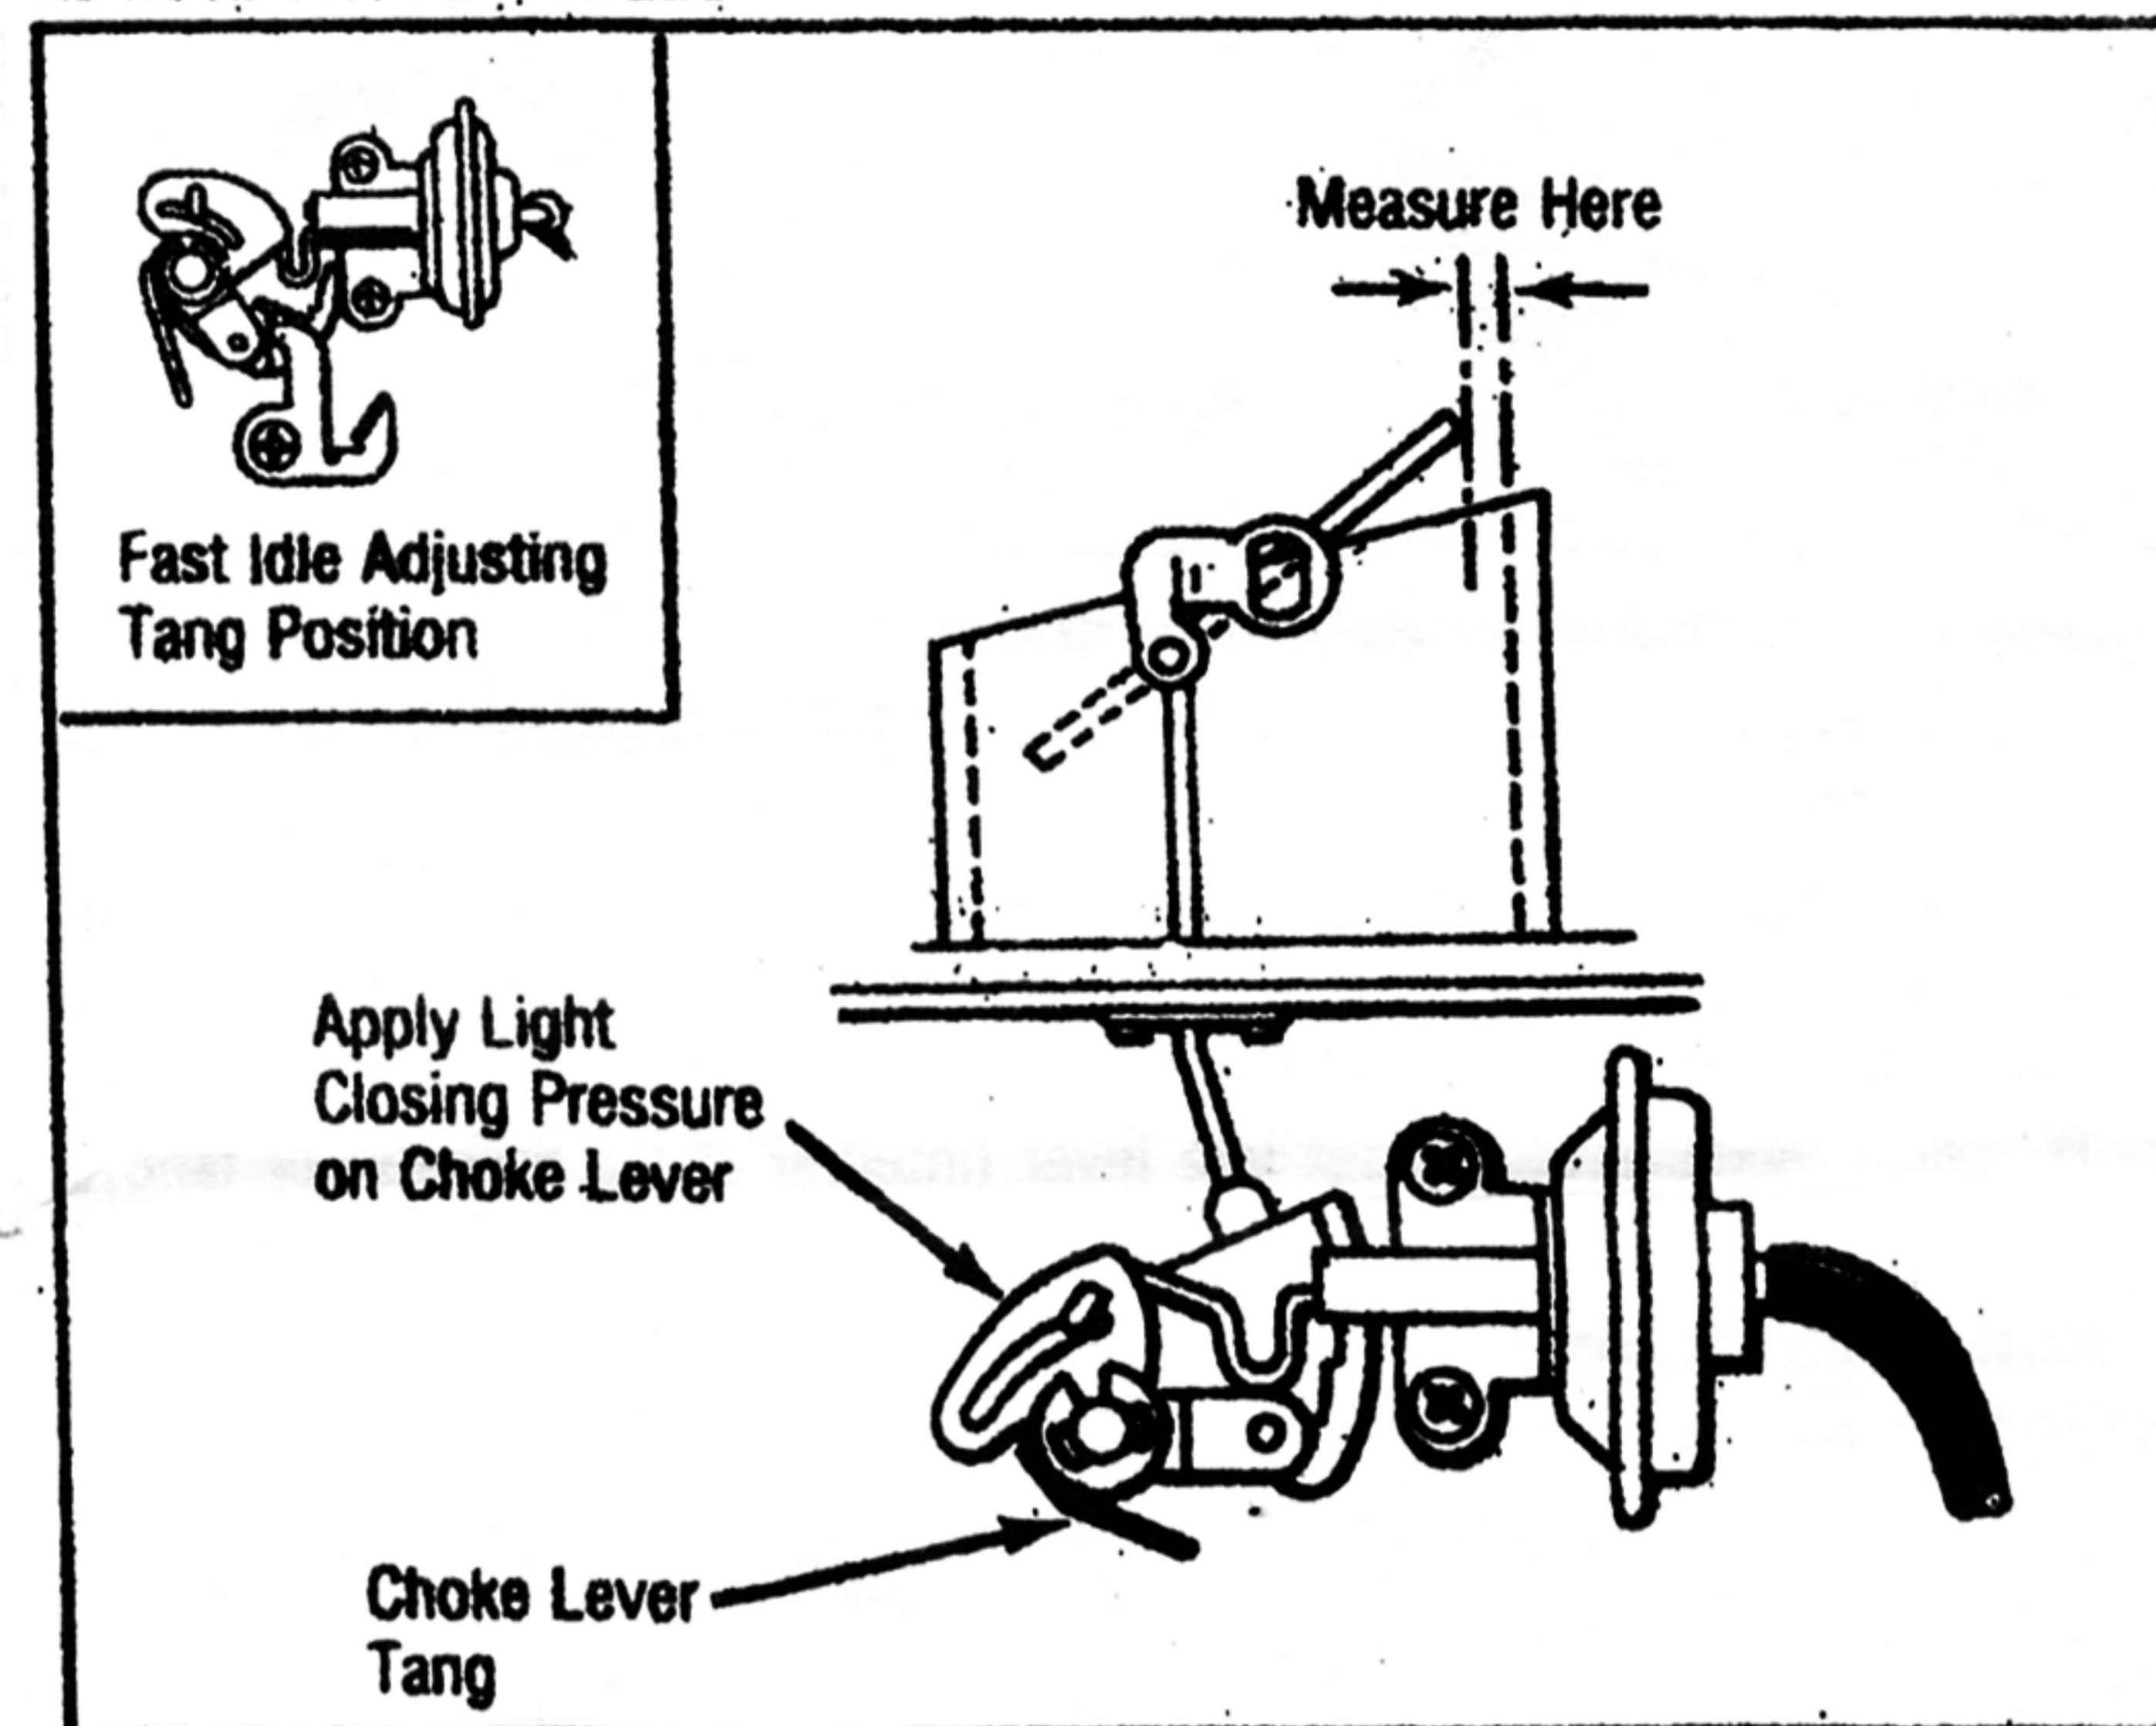

Fig. 12 Fast Idle Cam Adjustment (Remote Choke Models)
1. Place fast idle adjustment tang against the second highest step of the fast idle cam. Move choke valve toward the closed position with light pressure on the choke lever. See Fig. 12.